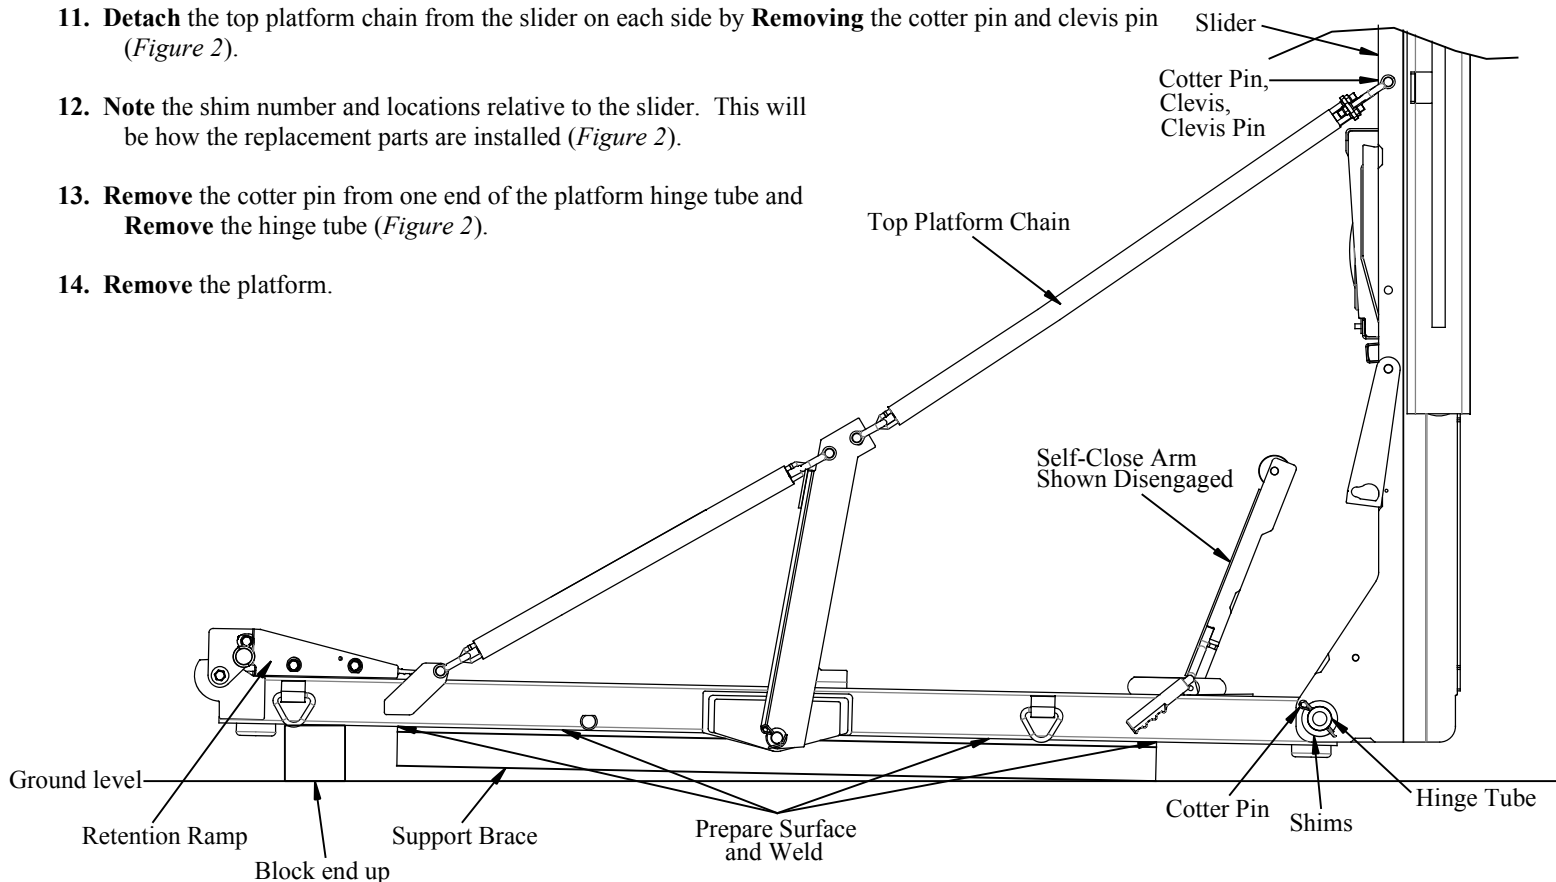

Figure 2
3. **Lower** the liftgate until the platform is fully opened and the self close arm is disengaged (Figure 2).
6. **Prepare** the platform to weld on each side at the locations shown (Figure 2).
7. **Weld** four 1/4" x 1.50" long welds connecting a support brace to the underside of the platform on each side to prevent the platform from folding during the removal process (Figure 2).
11. **Detach** the top platform chain from the slider on each side by **Removing** the cotter pin and clevis pin (Figure 2).
12. **Note** the shim number and locations relative to the slider. This will be how the replacement parts are installed (Figure 2).
13. **Remove** the cotter pin from one end of the platform hinge tube and **Remove** the hinge tube (Figure 2).
23. Being careful not to cut into the platform, **Cut** the welds attaching the support braces to the platform (*Figure 2*).